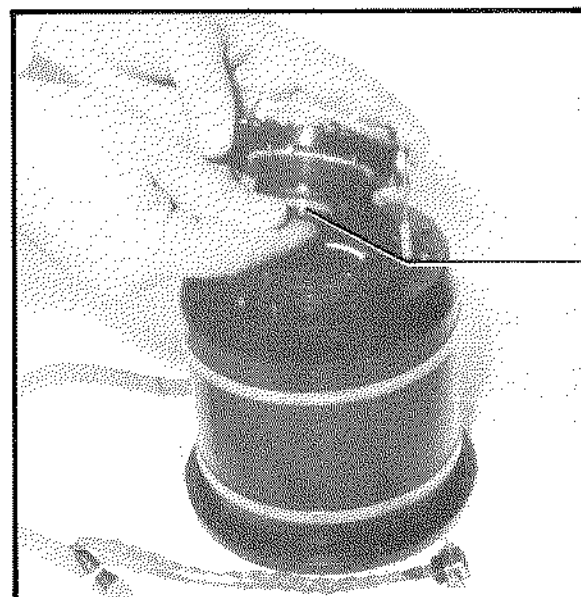

Fig. 3-26:
- Carefully remove/install the parts of the pump (see Fig. 3-26, 3-27, 3-28).